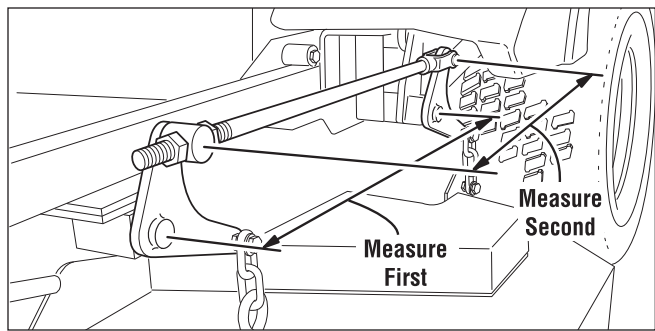

Figure 44. Check the Deck Lift Rod Timing
2. To check the lift rod timing, measure and record the distance between the lift pivots and the rod pivots. Repeat for other side of unit. See Figure 44.